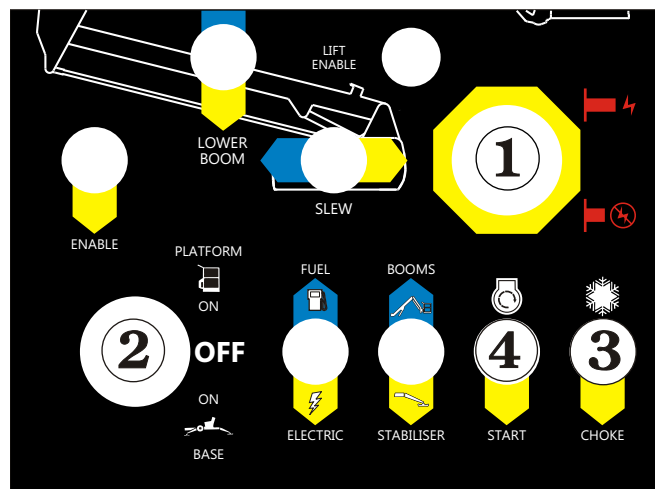

Figure 10.11 - Ground Control Box Starting
1. Set the **Emergency Stop** switch ① to ON (see Figure 10.11).
2. Insert the key and set the **Platform/Ground Selector** switch ② to GROUND (Base) (see Figure 10.11).
3. If the engine is at ambient temperature (cold), hold the **Choke / Cold Start Switch** ③ (see Figure 10.11) down throughout the next step.
- Press down on the **Start Switch** and hold it there until the engine starts or for a maximum time of 6 seconds. When the engine starts release the start switch ④ and the choke switch ③, if you used it (see Figure 10.11).